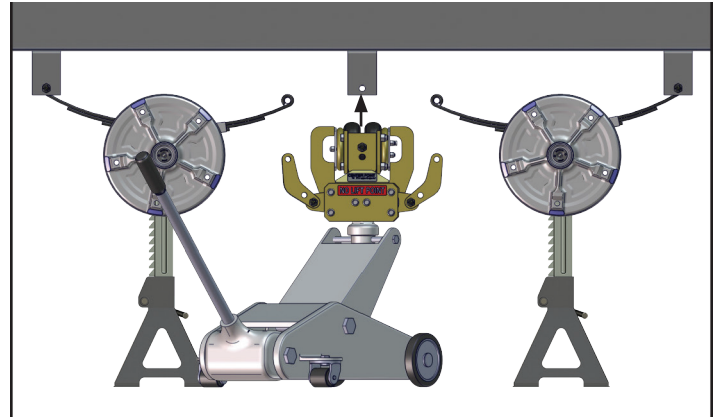

Fig.8
1. Starting on one side of the trailer in the rear, raise the equalizer to the frame hanger (**Fig.8**) and insert the cross shaft bolt (**Fig. 9A**).